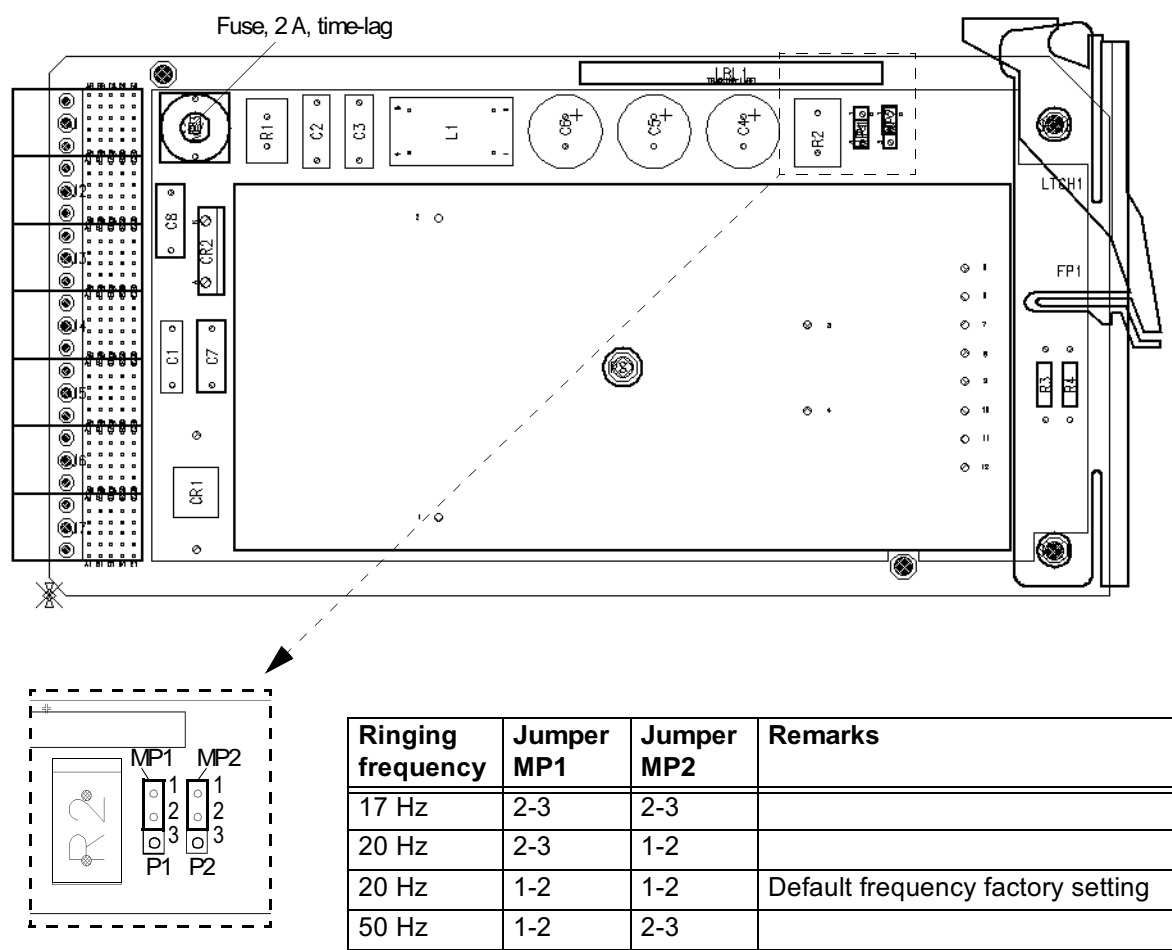

Figure 8-4 Location and settings of the jumpers MP1/MP2 on the RGU
- Step 1 Unpack the RGU and verify that the jumpers are set to 20 Hz. Figure 8-4 illustrates the jumper positions that correspond to the available ringing frequencies.